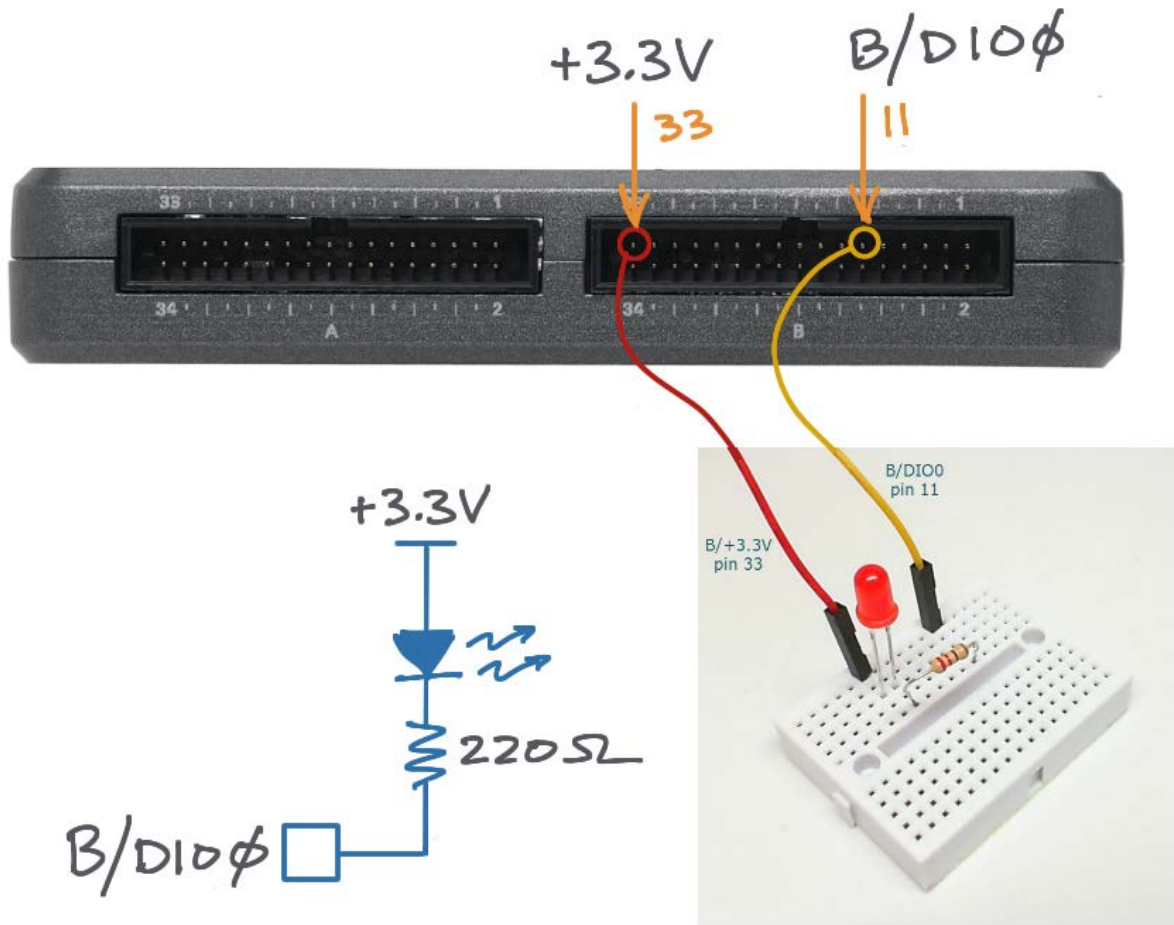

Figure 2.2: Demonstration circuit for discrete LED: schematic diagram, recommended breadboard layout, and connection to NI myRIO MXP Connector B.
**Build the interface circuit:** Refer to the schematic diagram and recommended breadboard layout shown in Figure 2.2 on the following page. The discrete LED interface circuit requires two connections to NI myRIO MXP Connector B (see Figure A.1 on page 233):